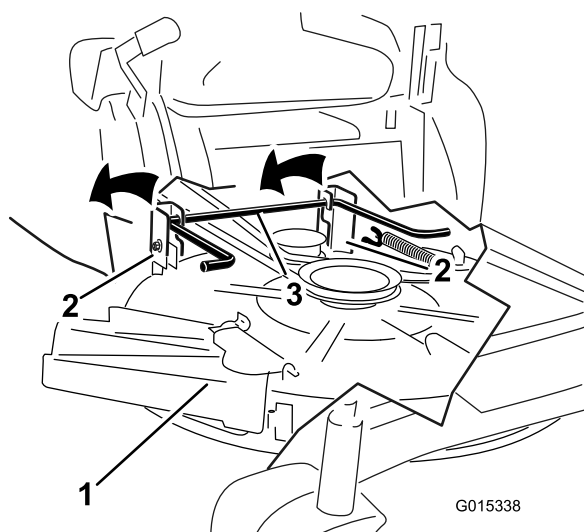

Figure 53
5. Using the mower-deck handles, lift the mower deck and hanger brackets clear of the rear lift rod and lower the mower carefully to the ground (Figure 53).
5. Lift the rear of the mower deck and guide the hanger brackets over the rear lift rod (Figure 53).